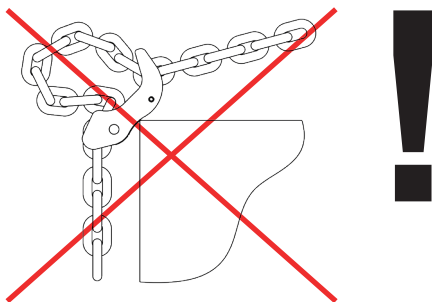

Fig. 9: Avoid edge load
- Avoid edge loads and protect the load against damage (fig. 9)